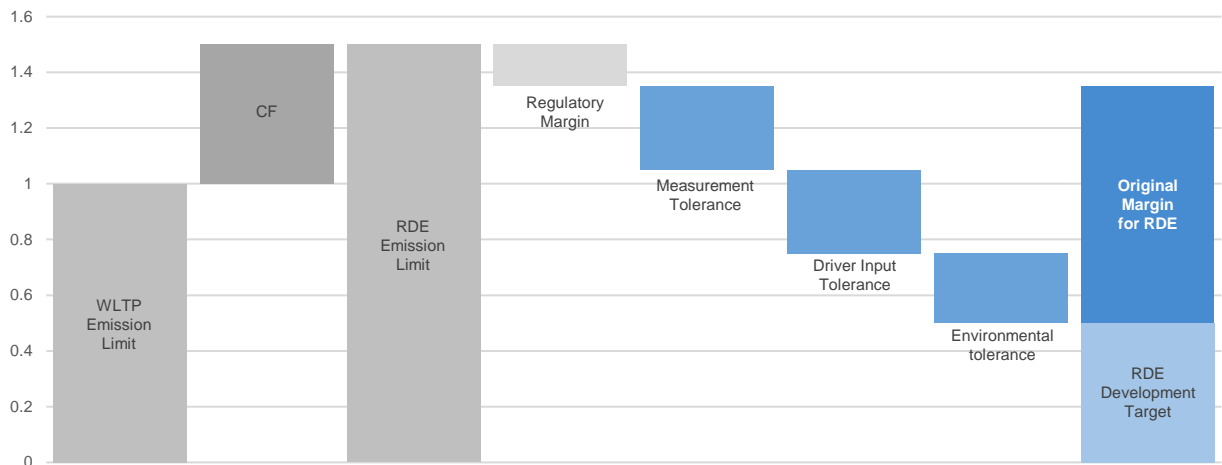

Figure 2 – Illustration of how the conformity factors and development tolerances relate to one another
Both protocols use the same emissions limits, but the difference is that RDE uses conformity factors (CF) to take into account certain measurement inaccuracies due to the nature of measuring on the road with the Portable Emissions Measurement System (PEMS) equipment as well as the influence of the PEMS equipment itself on the vehicle being tested. From 2017 (Phase 1 of RDE), the CF was set at 2.1 - this meant that a vehicle may initially emit 2.1 times as much as it does when tested under laboratory conditions. In future, it is expected that this margin, together with the emissions development targets themselves, will be decreased. This will add pressure to reduce the tolerances in the development (Fig.2).